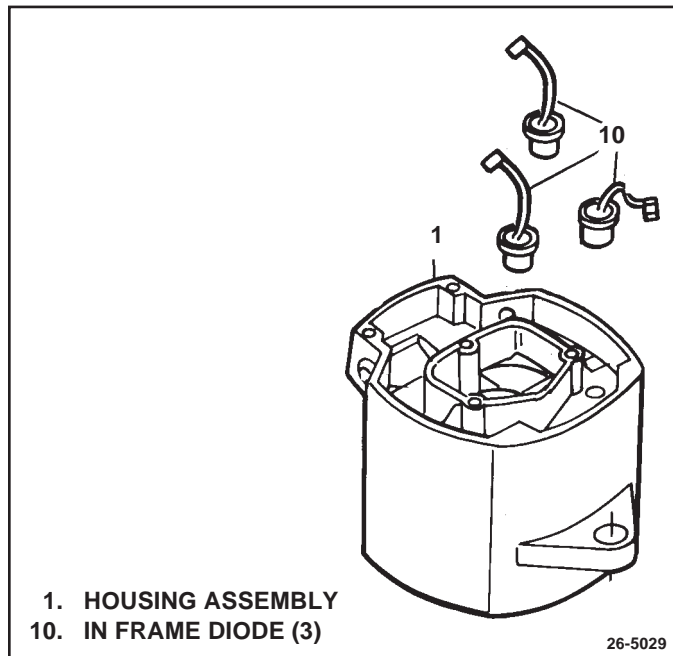

Figure 33. Installing In-Frame Diodes
- Position new in-frame diodes (10) to rectifier end housing (1) so that leads will reach the diode junction studs (13). (See Fig. 33) Using suitable diode installation tools, press new diodes into housing.